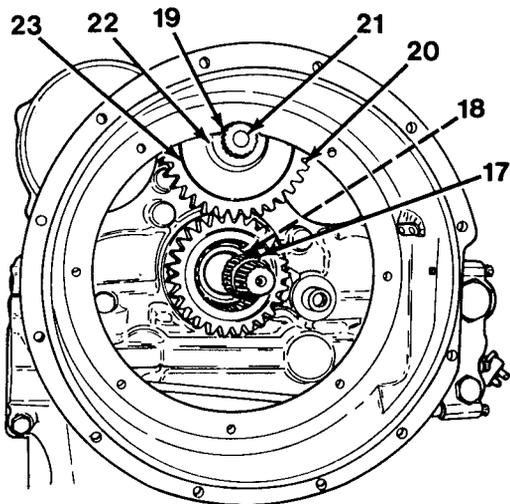
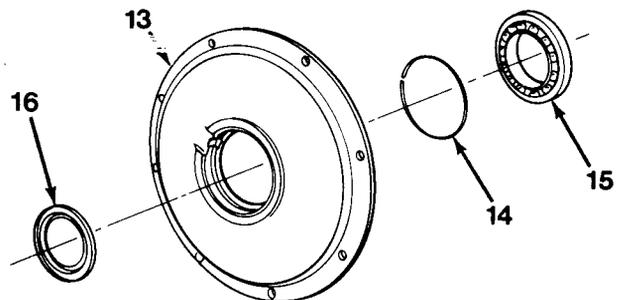

Figure 11-22
Figure 11-4
37. Install ground driven pump gear (20, Figure 11-22) and hold in place.
38. Using a hammer and bearing driver, install outside bearing (22) with ground driven pump shaft (21), together as an assembly, through ground driven pump gear (20).
39. Install snap ring (19) to secure ground driven pump gear (20).
40. Install cover (23).
41. Install thrust washer (18) and hub impeller gear (17).
42. Install oil seal (16) in bearing retainer (13, Figure 11-4).
43. Install snap ring (14) and expand with snap ring pliers until snap ring (14) is opened far enough to allow installation of bearing (15).
44. Install bearing (15) in bearing retainer (13). Snap ring must seat in bearing.